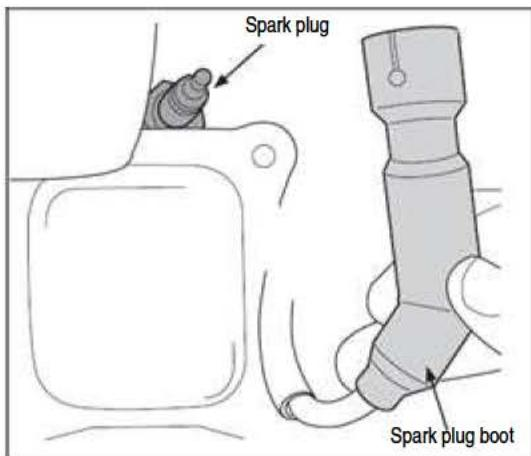

Figure 17
1. Remove the spark plug boot and use a spark plug wrench to remove the plug. See figure 17.